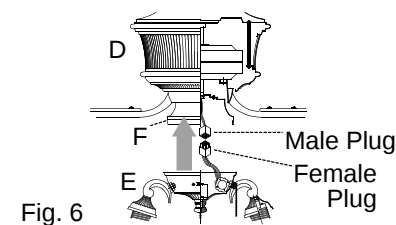

Fig. 6
6. Connect male plug from fan to female plug from switch housing (E). Make sure that the plugs connect securely. [Fig. 6]